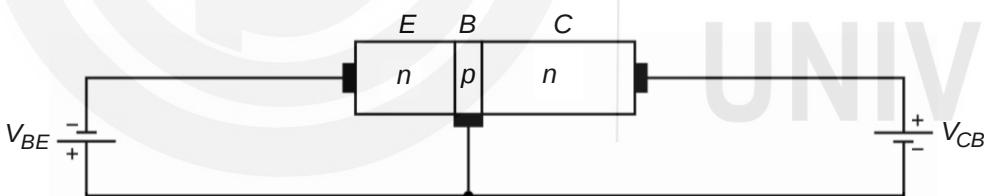

Fig. 3.4: An *n-p-n* transistor when the emitter-base junction is forward biased and collector-base junction is reverse biased.
A typical biasing scheme of an *n-p-n* transistor is shown in Fig. 3.4. Note from Fig. 3.4 that in an *n-p-n* transistor, the **emitter-base *p-n* junction is forward biased while the collector-base *p-n* junction is reverse biased** for its normal operation as an amplifier.
- Draw a labelled diagram similar to Fig. 3.4 showing how a $p-n-p$ transistor is biased.